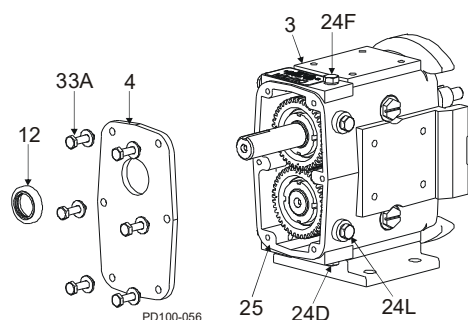

Figure 267 - Remove Gear Case Cover
1. Remove the oil drain plug (Figure 267, item 24D); drain the oil.
2. Remove the cap screws from the gear case (Figure 267, item 33A).
3. Pull the cover (item 4) off the shaft extension. If the cover sticks, use a soft hammer to loosen it.
4. Remove the silicone sealant (item 25) from the gear case and cover.
5. Using an arbor press, remove the oil seal (item 12) from the cover. Discard the used oil seal.